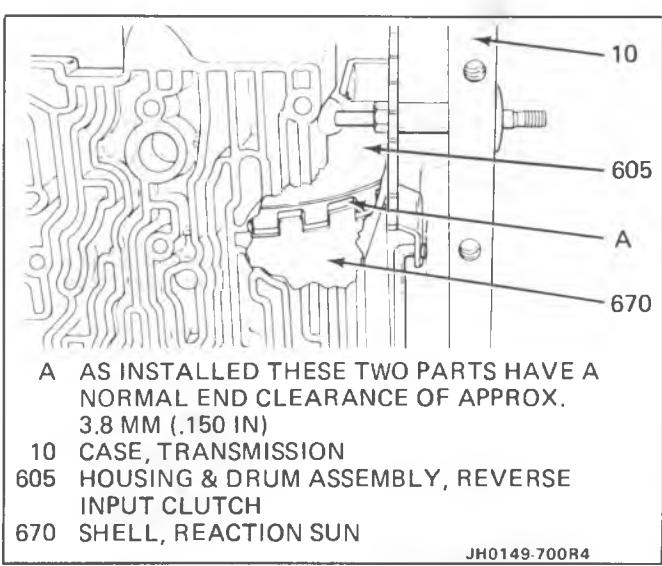

Figure 108 Clearance Between Reverse Input Clutch and the Sun Gear Shell
Important (Figure 108)
- There should be clearance between the reverse input clutch and the reaction sun gear shell. This clearance can be observed at the point shown in Figure 108. **Do not** try to shim the internal parts because of this clearance.